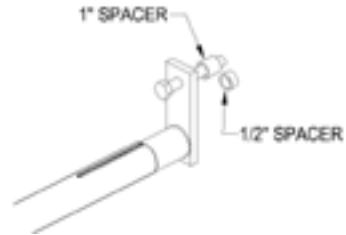

Figure 3
- B. Spacers are supplied to bring the steel swivel away from the frame in the event of any obstructions (see Figure 3).